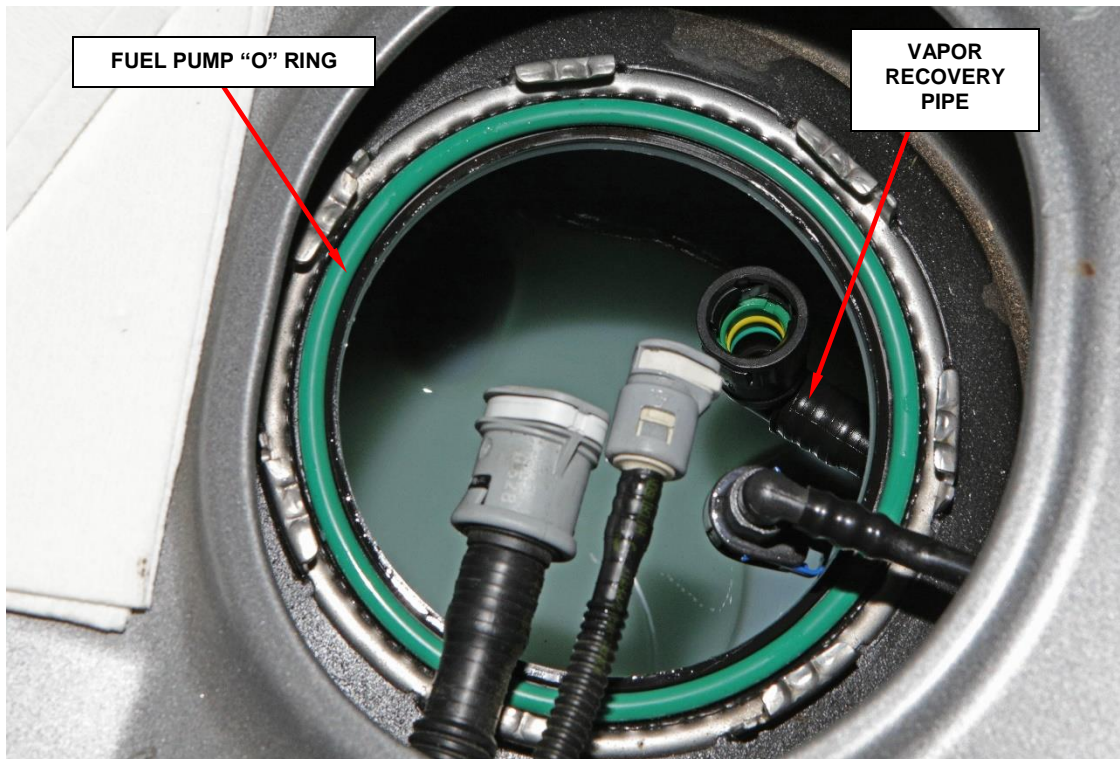

Figure 10 – Fuel Pump “O” Ring
48. Place the **NEW** fuel pump module seal (“O” ring) on the fuel tank opening (Figure 10).